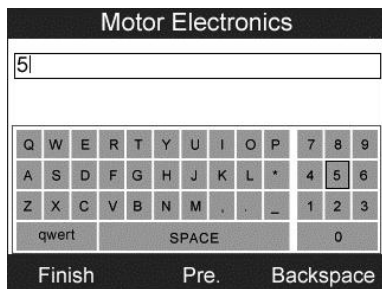

Figure 13.18
**[Show]**: Press this key to pop up a soft keyboard to facilitate your input. (Figure 13.18)